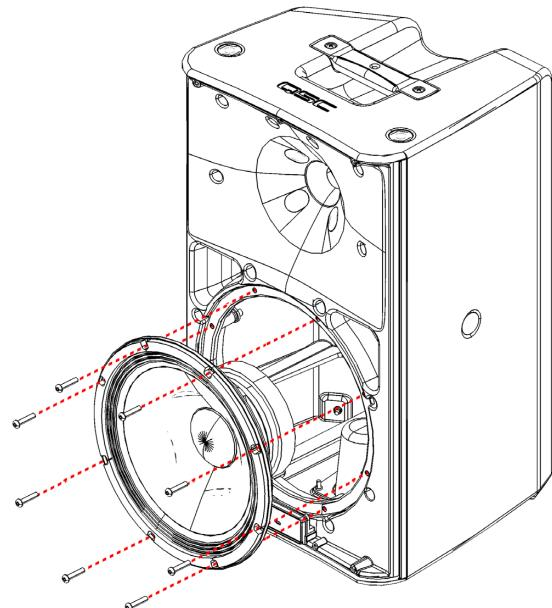

Figure 5.5.1 - LF transducer
10. Remove 8 hex screws around the perimeter of the transducer's frame as shown in Figure 5.5.1.